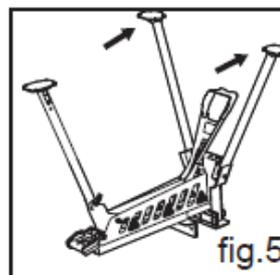

fig.5
3. Pivot the front legs (7) forward until they “click” into position. (See fig. 5)